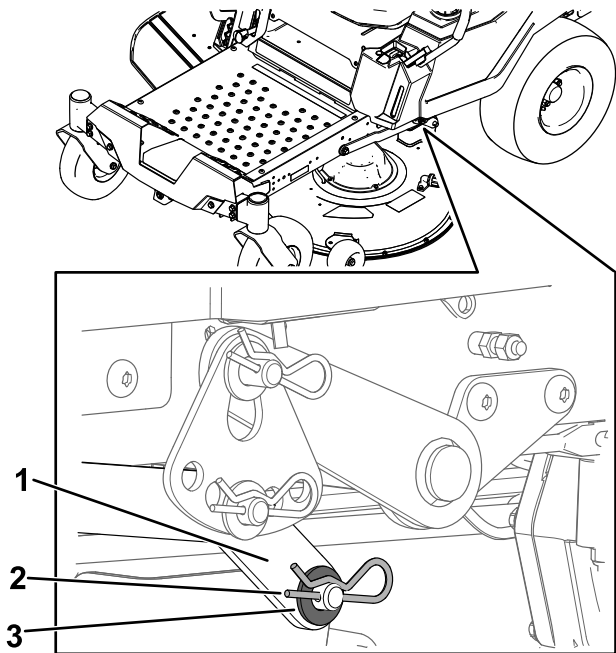

Figure 77
- On 1 side of the machine, remove the washer and hairpin cotter from the deck pin (Figure 77).
- Remove the lift arm from the deck pin (Figure 77).
- On 1 side of the machine, lift the rear of the mower deck and install the lift arm to the deck pin (Figure 77).
- Install the lift arm using the washer and hairpin cotter (Figure 77).